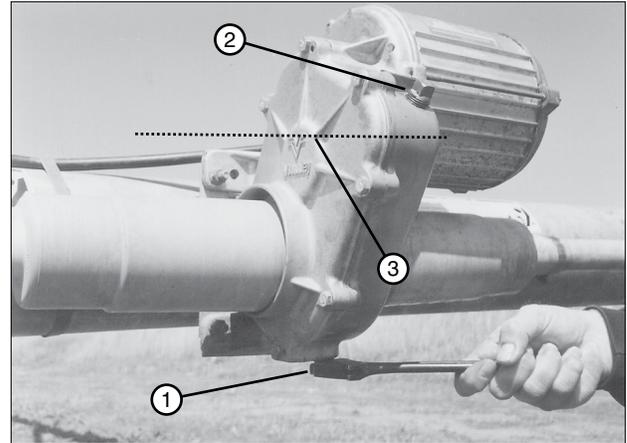

Figure 41-1 1. Drain Plug
1. Remove the drain plug and the fill plug. Drain the oil and install the drain plug. See figure 41-1.